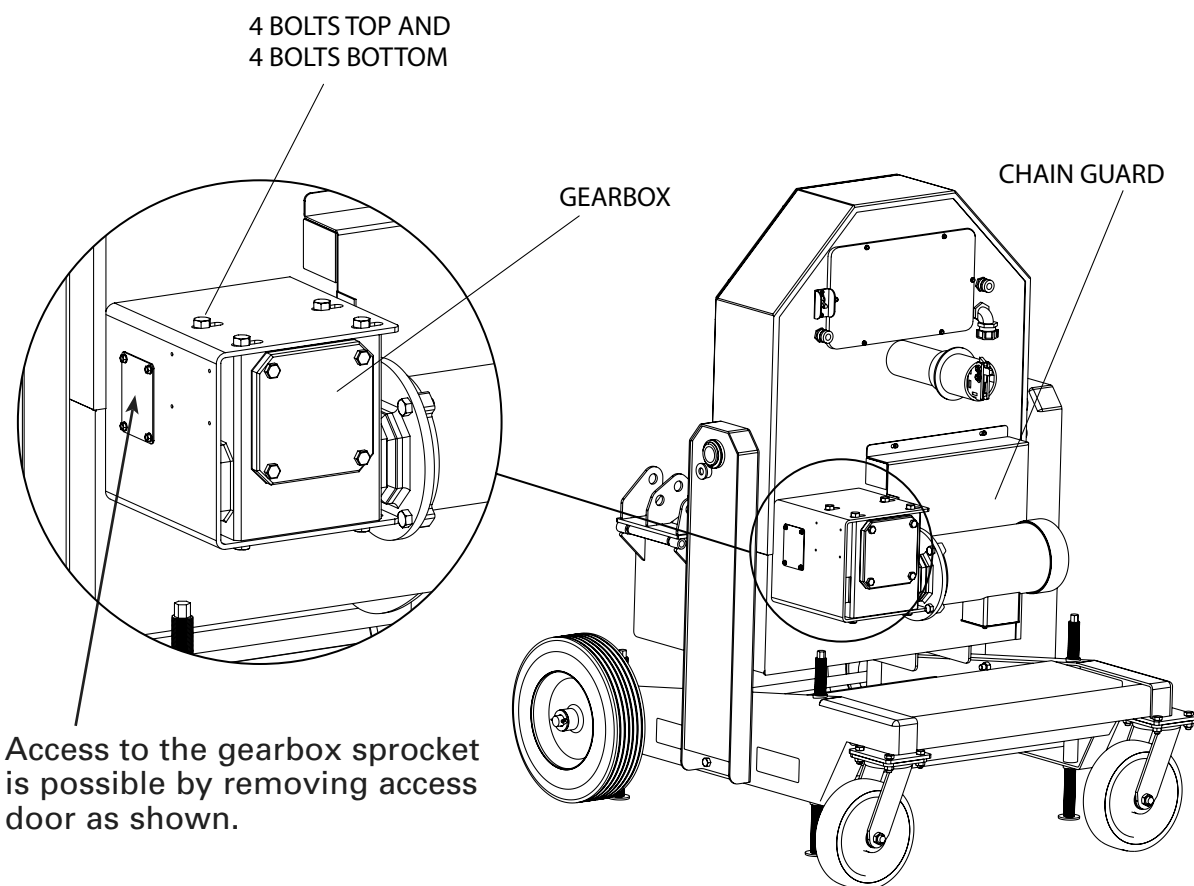

Figure 32
- Check chain tension after an initial break-in period of 2 - 3 hours of use and tighten per the instructions below. See Figure 32. Thereafter, inspect monthly.